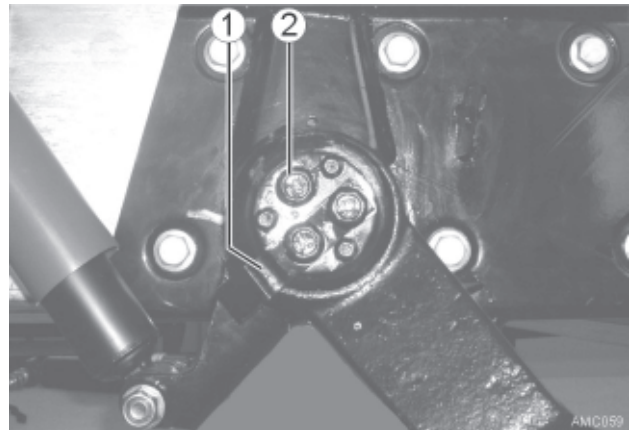

Fig. 15
4. Unscrew three hexagon bolts M10x16 (Fig 15 - 2) and remove with the brake cable holder (Fig 15 -1).